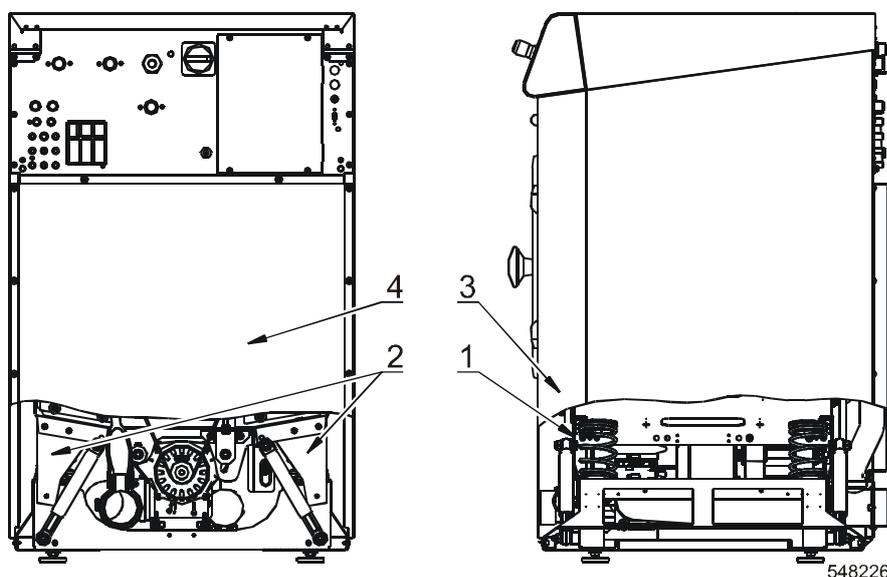

Figure 3 – Freestanding machines
- Remove front and rear panel, see figure 3., pos.3, 4.
- Remove both front metal transport holders, pos. 1.
- Remove both rear transport holders, pos. 2.